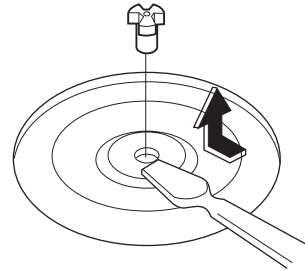

Figure 15
- (1) Remove the glass tray and rotating ring.
- (2) Remove the turntable shaft VERY CAREFULLY with a hand. (Figure 15)